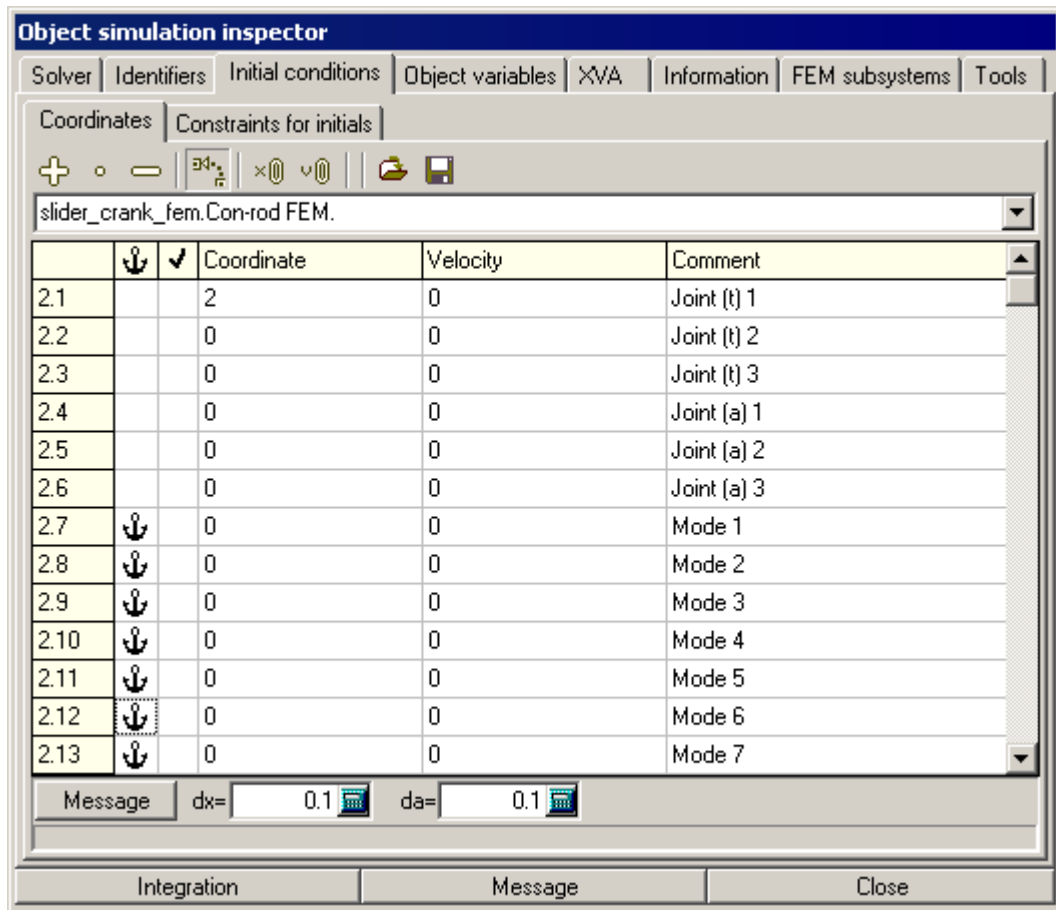

Figure 2.24.
4. In the **Object simulation inspector** select the **Initial conditions** tab. Select the **Con-rod** subsystem in the drop down list, Fig. 2.24. An anchor sign means that the correspondent degree of freedom is frozen. In this example it means that the elastic degrees of freedom will not be changed during calculation of initial position.
**Note.** If the **Initial condition** tab differs to the Fig. 2.24 set the anchors manually.